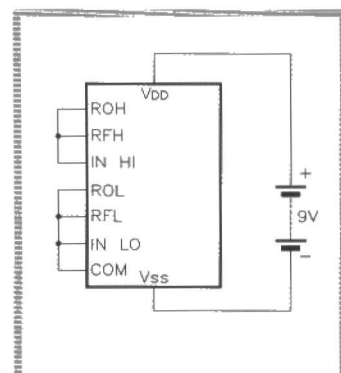

Figure 11. Ratiometric-accuracy test circuit.
**Ratiometric Accuracy.** A DPM is a ratiometric unit. If connected as in Figure 11, with identical voltages applied to the RFH and IN HI terminals, it should ideally read '1000'  $\pm 1$  count, but in practice it usually gives a reading about 0.1% below this